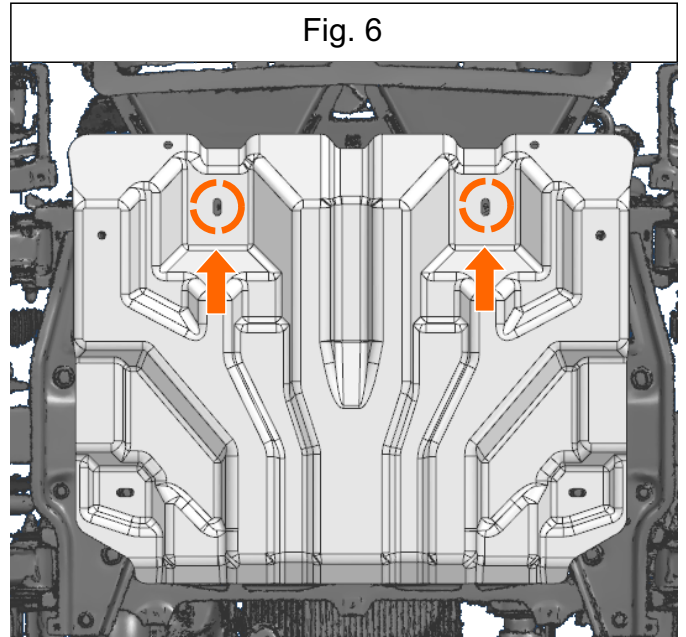

Fig. 6
6. Put the skid plate 2 (item 2) on pre-installed bolts M8x25 (item C), as shown in fig.6.